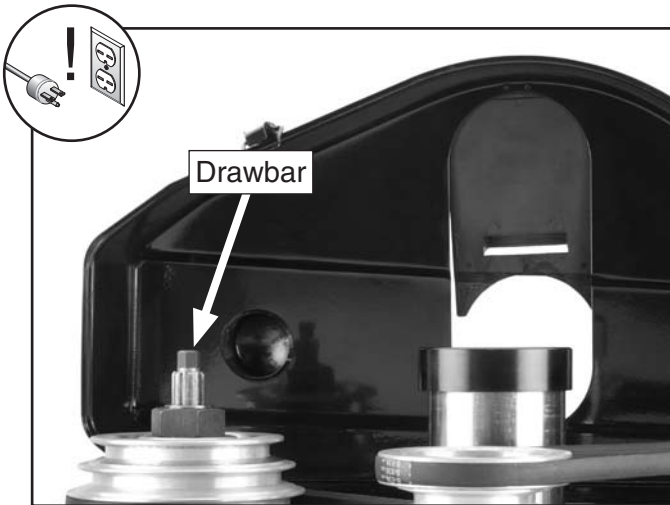

Figure 17. Drawbar inserted into the spindle.
2. Open the V-belt cover and insert the drawbar through the top of the spindle, as shown in **Figure 17**.